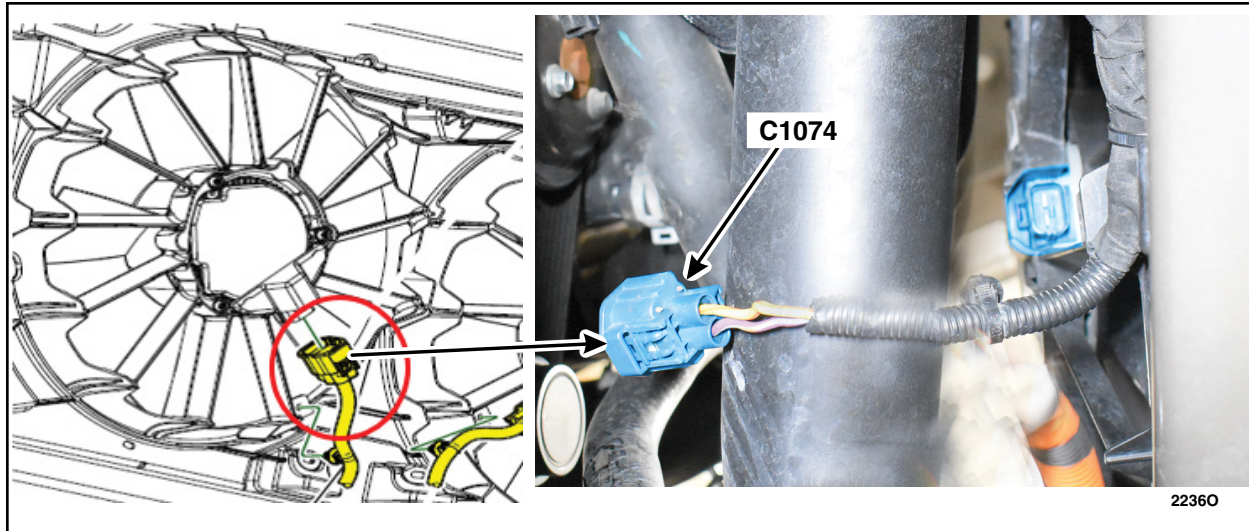

FIGURE 21
25. Disconnect connector C1074 from cooling fan. See Figure 21.